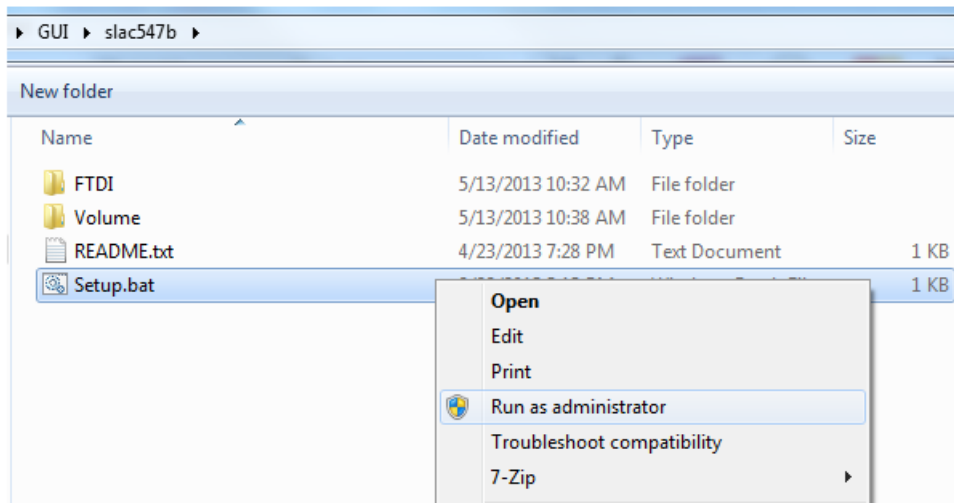

Figure 11. ADS5296 GUI Install (a)
- Unzip the folder and run the *Setup.bat* file as administrator by right clicking on it and selecting *Run as administrator* as shown in Figure 11.